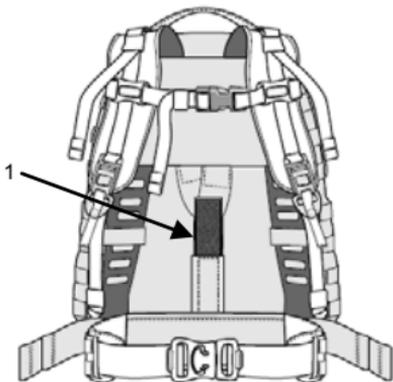

Figure 4. Adjusting Straps on Medium Pack Frame.
2. Open and loosen the vertical strap, the 2-inch webbing (Figure 4, Item 1), which secures the shoulder strap to the frame.
4. Re-tighten vertical strap (Figure 4, Item 1), which secures shoulder strap to the frame.